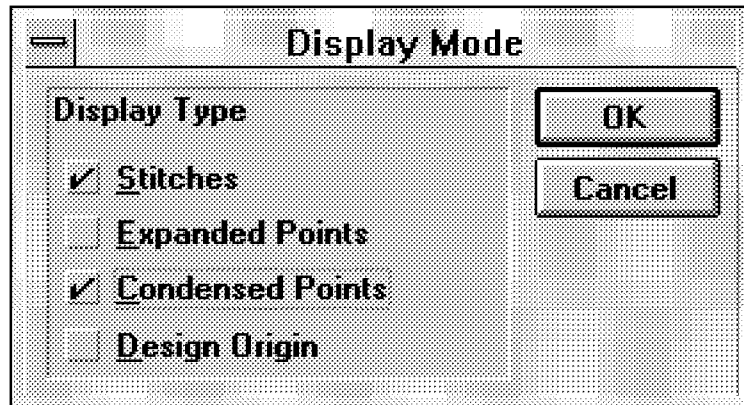

Figure 6-8
3. Inside the Display Mode dialog box, click on Condensed Points to place a check mark in the box (see Figure 6-8). You should also see that there is a check mark in the Stitches check box by default.